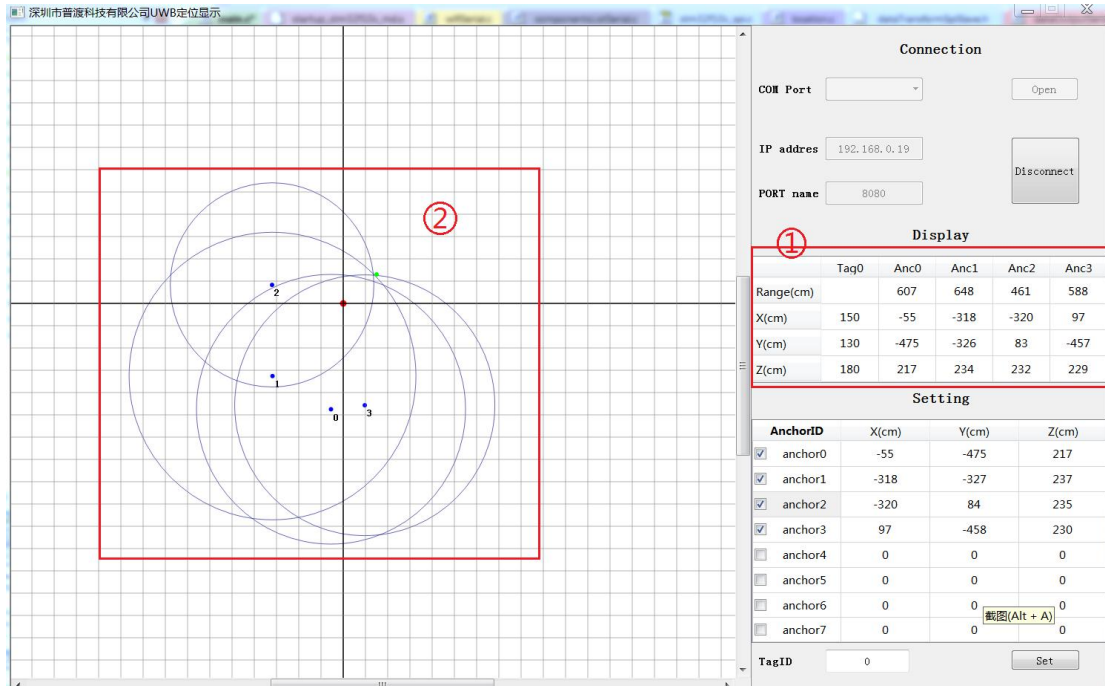

Figure 13 Sample interface
(1) As illustrated in Figure 13, in section ①, the first column shows the tag ID, and the calculated tag coordinates. If the coordinates are not correctly calculated, it will be (0, 0, 0). The 2nd to 5th column shows anchor-tag distances and anchor coordinates.
(2) As illustrated in Figure 13, in section ②, every grid represents an area of 1m\*1m. X-axis of this coordinate system points to the right horizontally, Y-axis points to the top vertically. The red dot in the intersection point of X and Y axes is the origin. The blue dots on the diagram are anchors' locations, with their ID lying in their bottom-right corner. Blue circles are drawn with the anchor coordinates as the center, and distances as radius. The green dot is where the tag is, and its coordinates are written on the bottom-right corner of this dot. You can get an overview of how PK-1000 works clearly in this diagram: